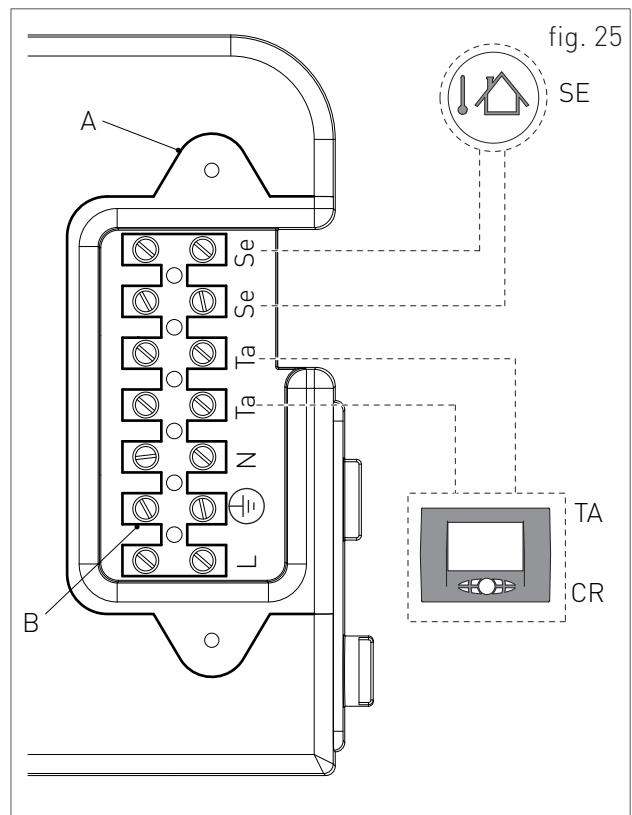

fig. 25
- › unscrew the screws and remove plate "A" (see fig. 25).
- › After removing the plate, connect the electrical cables to terminal "B" (see fig. 25):